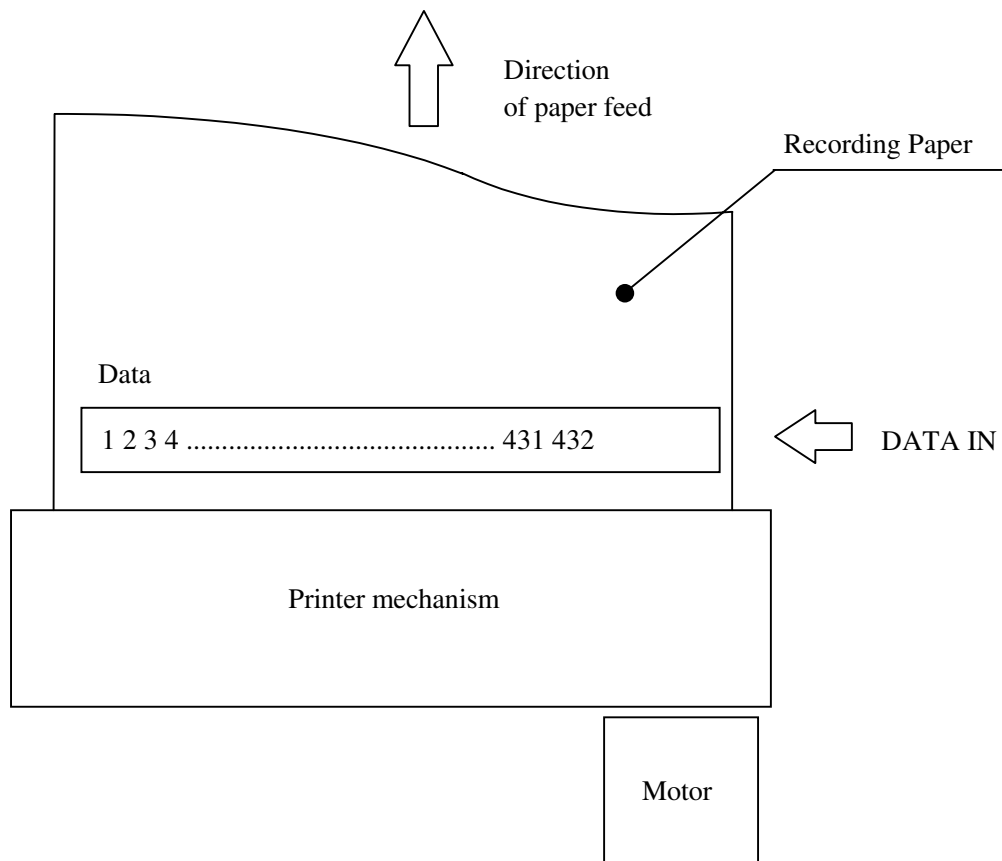

Figure 4-2 Print Data and Print Position
The data of 432 bits (Nos.1 to 432) transferred by DATAIN (DI) are printed on the position shown in figure 4-2.